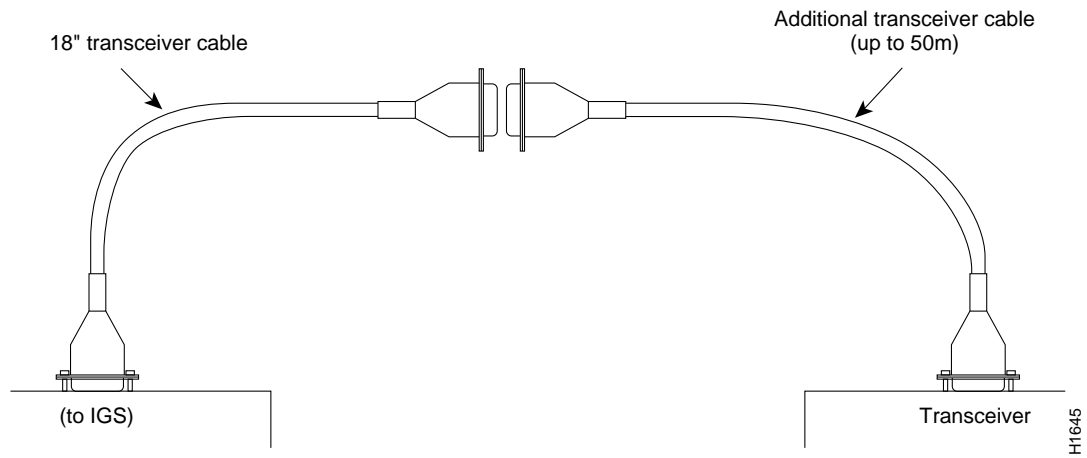
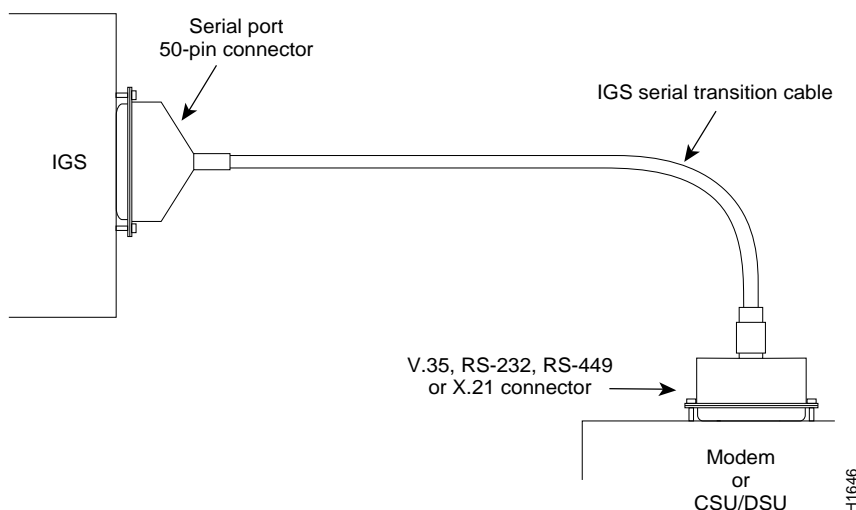

Figure 1-2 Extending the Transceiver Cable from the IGS Ethernet Port
Figure 1-3 IGS Serial Transition Cable Connections
When viewed from the rear, the power cable and power switch appear on the right side of the IGS chassis. The system console port, auxiliary (AUX) port, Ethernet ports, and serial line port, if any, appear to the left of the power cable and switch. Refer to Figure 1-2 and Figure 1-3 for rear views of the IGS.
Ethernet ports are located to the right of the console port and the auxiliary port. The ports are labeled as *Ethernet 0* and *Ethernet 1*. (Refer to Figure 1-2 and Figure 1-3.) Standard 15-pin Ethernet transceiver cables and IEEE 802.3 AUI cables can be used. An 18-inch transceiver cable is provided for each Ethernet port. This cable provides flexibility for alternate connection configurations. Three configurations are possible:
- The transceiver cable can be used as a flexible extension of the IGS Ethernet port; an Ethernet transceiver cable with a slide-latch-type connector (802.3 AUI cable) will mate with the female end of the 18-inch transceiver cable, as shown in Figure 1-2.
Figure 1-2 shows the transceiver cable used as a flexible extension of the IGS Ethernet port allowing an Ethernet transceiver cable with a slide-latch-type connector (802.3 AUJ cable) to mate with the female end of the 18-inch transceiver cable.
The serial interface port, if any, is located to the right of the Ethernet port on the back of the IGS. The serial port is a 50-pin D-subminiature connector. This port is Data Terminal Equipment (DTE) that expects clocking to be provided by a Channel Service Unit/Data Service Unit (CSU/DSU) or modem. A special cable, as shown in Figure 1-3, must be used for this port to function correctly. The IGS serial transition cable is available from Cisco Systems. Chapter 4 contains the specifications of the IGS serial transition cable and other cables.
Figure 1-3 shows the IGS serial transition cable connections between the IGS and a modem or CSC/DSU.
Note: RS-232 is often used in violation of these specifications. If you understand the electrical problems that can arise and can compensate for them, you might be able to get good results at distances far greater than those shown in Figure 1-3; however, do so at your own risk.